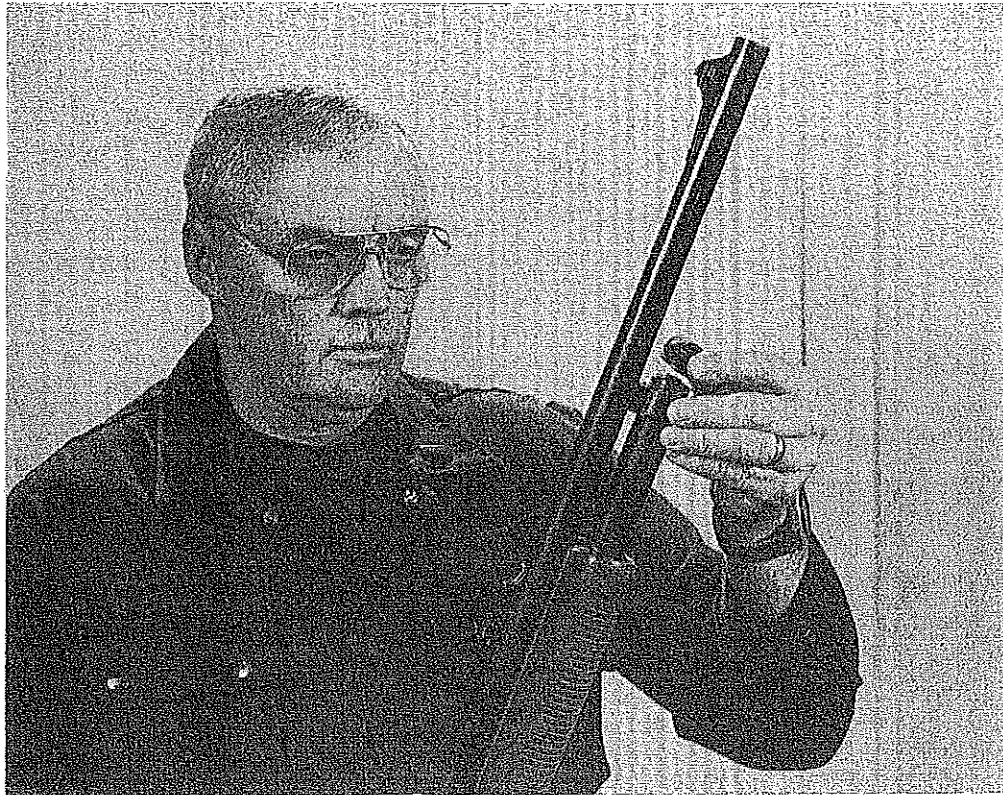

FIGURE 78
2. Remove the magazine cap. (Figure 78)